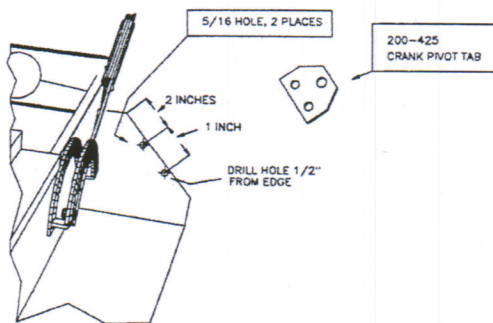

FIG. 3
17. Install the spout handle and spout handle crank-pivot tab. See figure 3 below. Drill two 5/16 holes into the foot rest on the right hand side of the body as shown in figure 3. above.